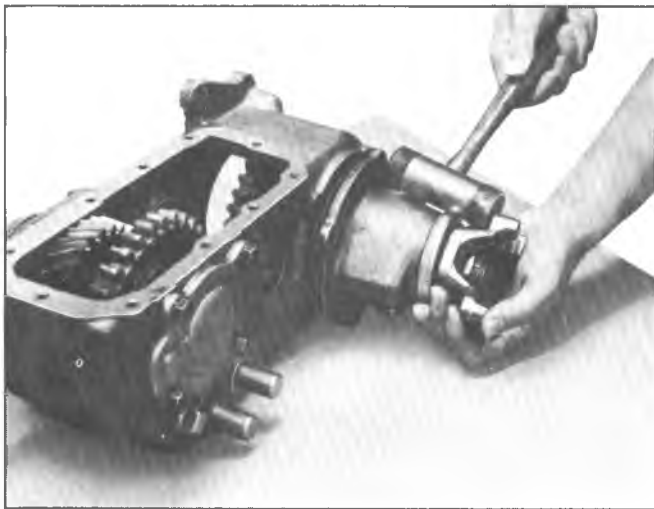

Fig. 3D--Removing Rear Output Shaft Sub-Assembly
6. Remove bolts attaching rear output shaft subassembly to transfer case and remove complete unit from case as shown in Figure 3D.